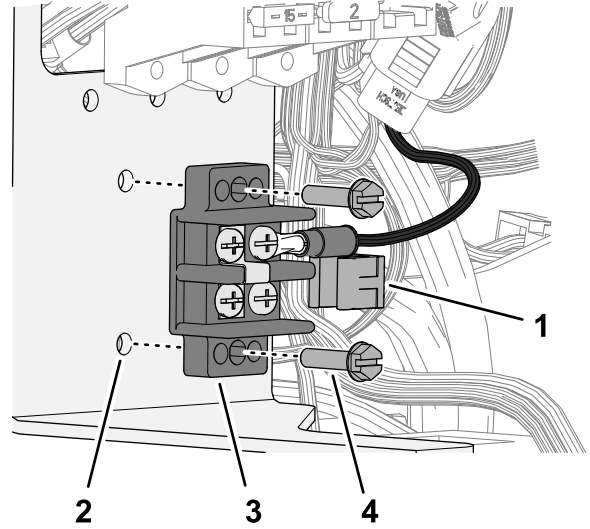

Figure 219
4. Secure the ground block and to the battery bracket with the 2 bolts (10-24 x 3/4 inch), 2 locknuts (10-24) that you remove in step 6 of Removing the Battery \(300 A\) and Battery Bracket \(page 96\), and secure the wire-support clip to the edge of the bracket (Figure 219).